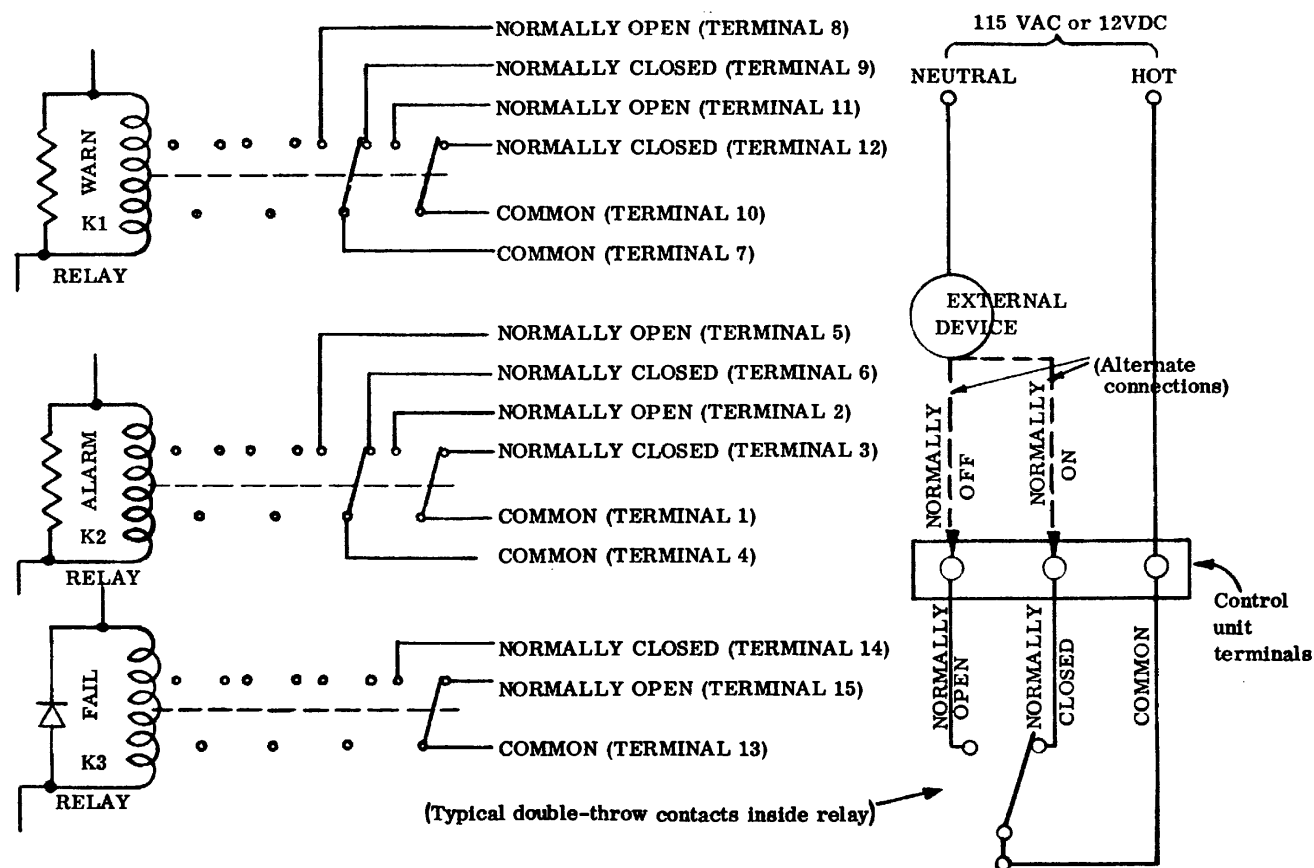

Figure 1-13. CD800/830 Relay External Circuits and Typical External Connections
- 1-3.1.10 **Relay External Circuits**. (Figures 1-13, 1-14) Solenoid operated contacts for controlling external lamps, buzzers, horns, fans, sprinklers, door closers, etc., are provided by control unit relays K1, K2, and K3 for all models, and an additional relay K4 for CD802/832 dual-channel models. Warning relay K1 and alarm relay K2 of CD800/830 models, and warning relay K2 of CD- 802/832 models each have two isolated normally open contacts and two
(See Figure 1-13 for typical relay-to-external-device connections.)